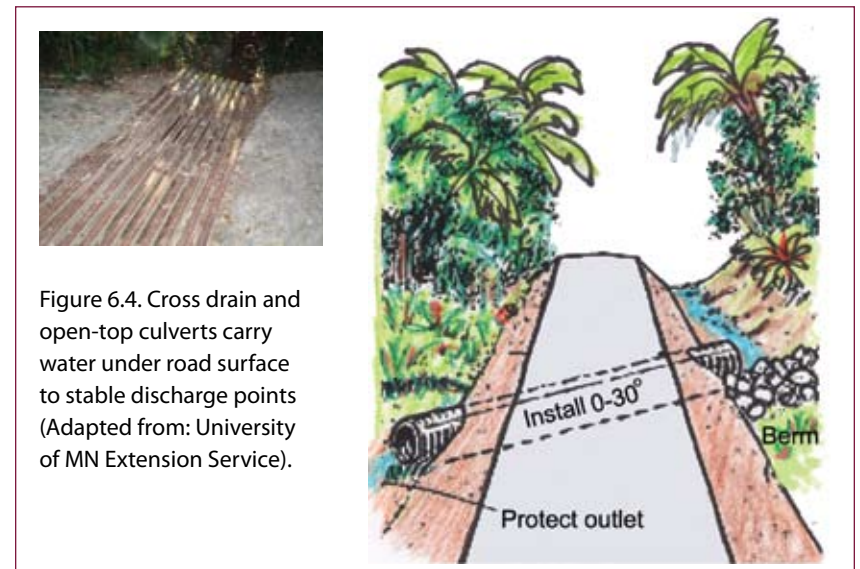

Figure 6.4. Cross drain and open-top culverts carry water under road surface to stable discharge points (Adapted from: University of MN Extension Service).
**Cross drain and open-top culverts** intercept ditch or road surface runoff and divert flows across the road in underground pipes or grated trenches. Piped culverts should be no less than 12 inches in diameter, angled at 30-45 degrees, have 2% slope, and covered with fill at a depth of ½ pipe diameter (Figure 6.4). The entry and outlet of pipe should be armored with rock/coral or concrete.